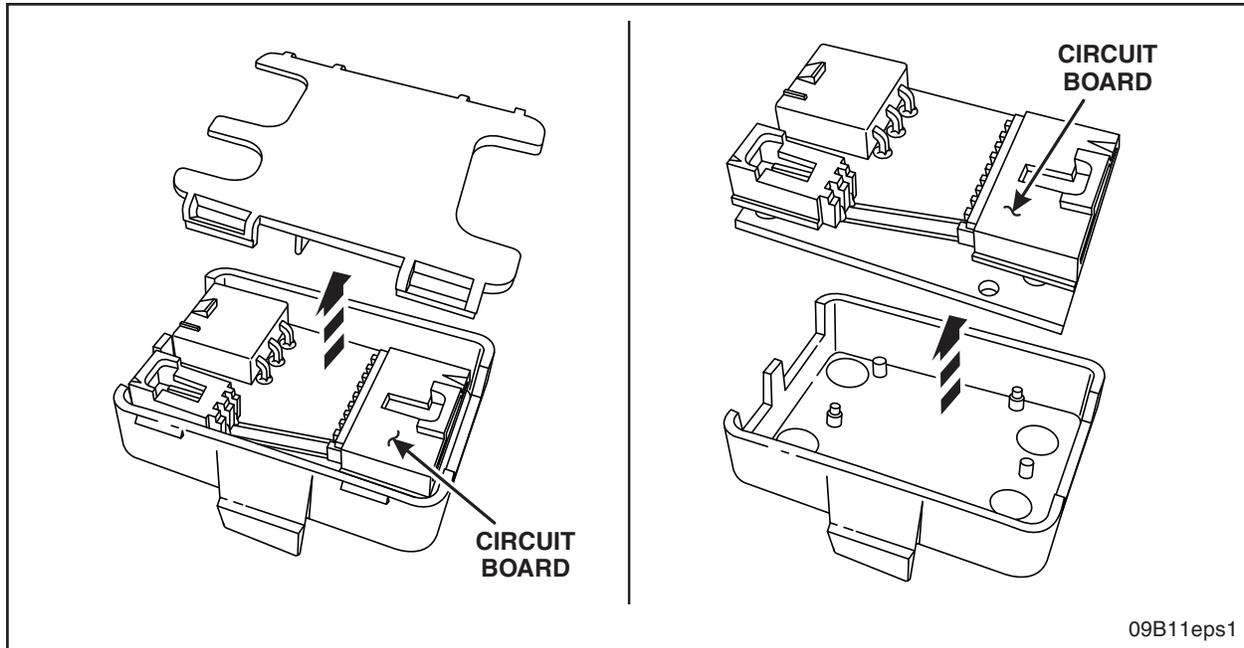

FIGURE 3
4. Replace the circuit board. See Figure 3.